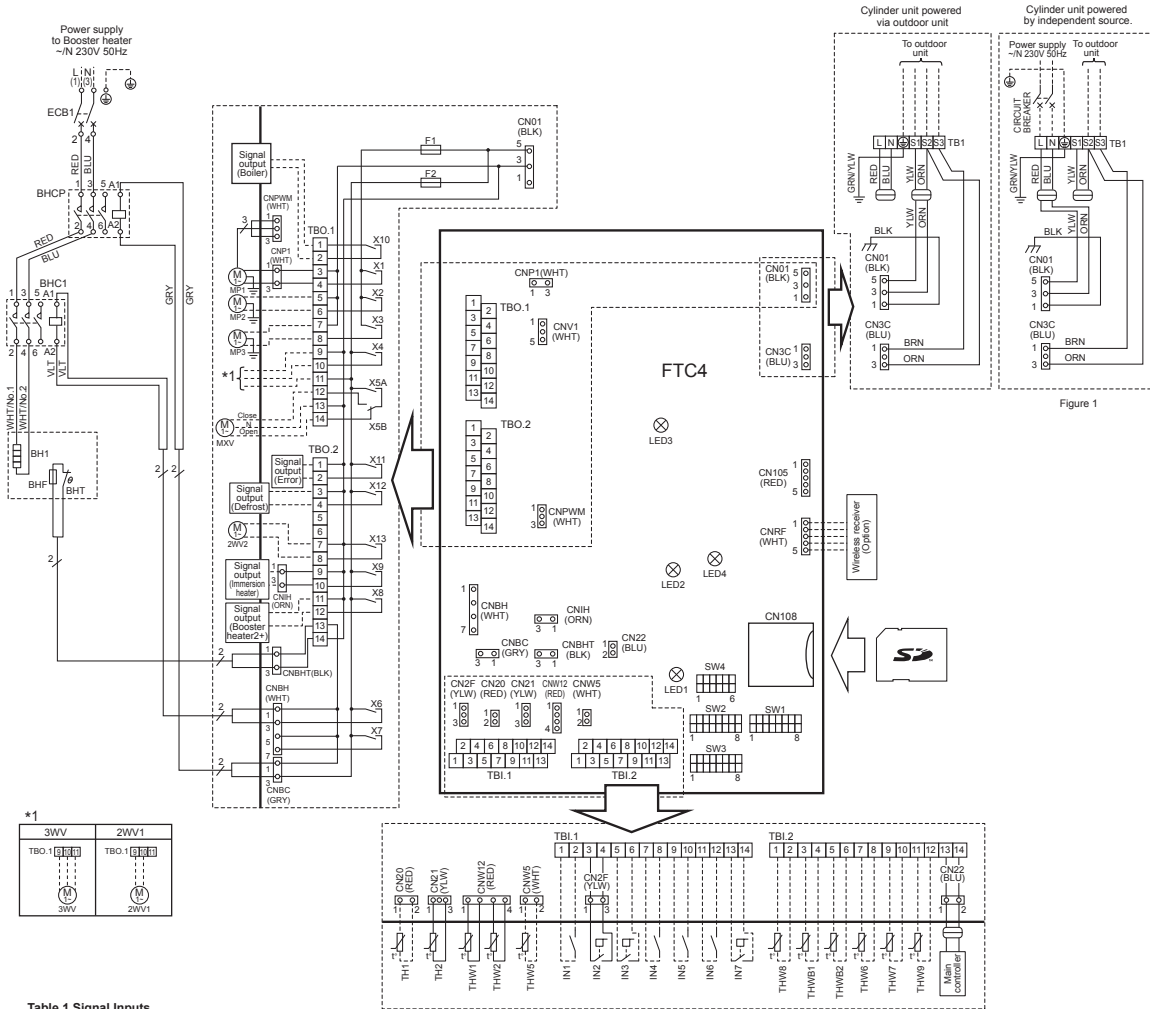

Figure 1
4. This diagram shows the wiring of indoor unit and outdoor unit connecting wires (specification of 230V), adopting superimposed system of power and signal. When work to supply power separately to indoor unit and outdoor unit was applied, refer to Figure 1.
- This diagram shows the wiring of indoor unit and outdoor unit connecting wires (specification of 230V), adopting superimposed system of power and signal. When work to supply power separately to indoor unit and outdoor unit was applied, refer to Figure 1.